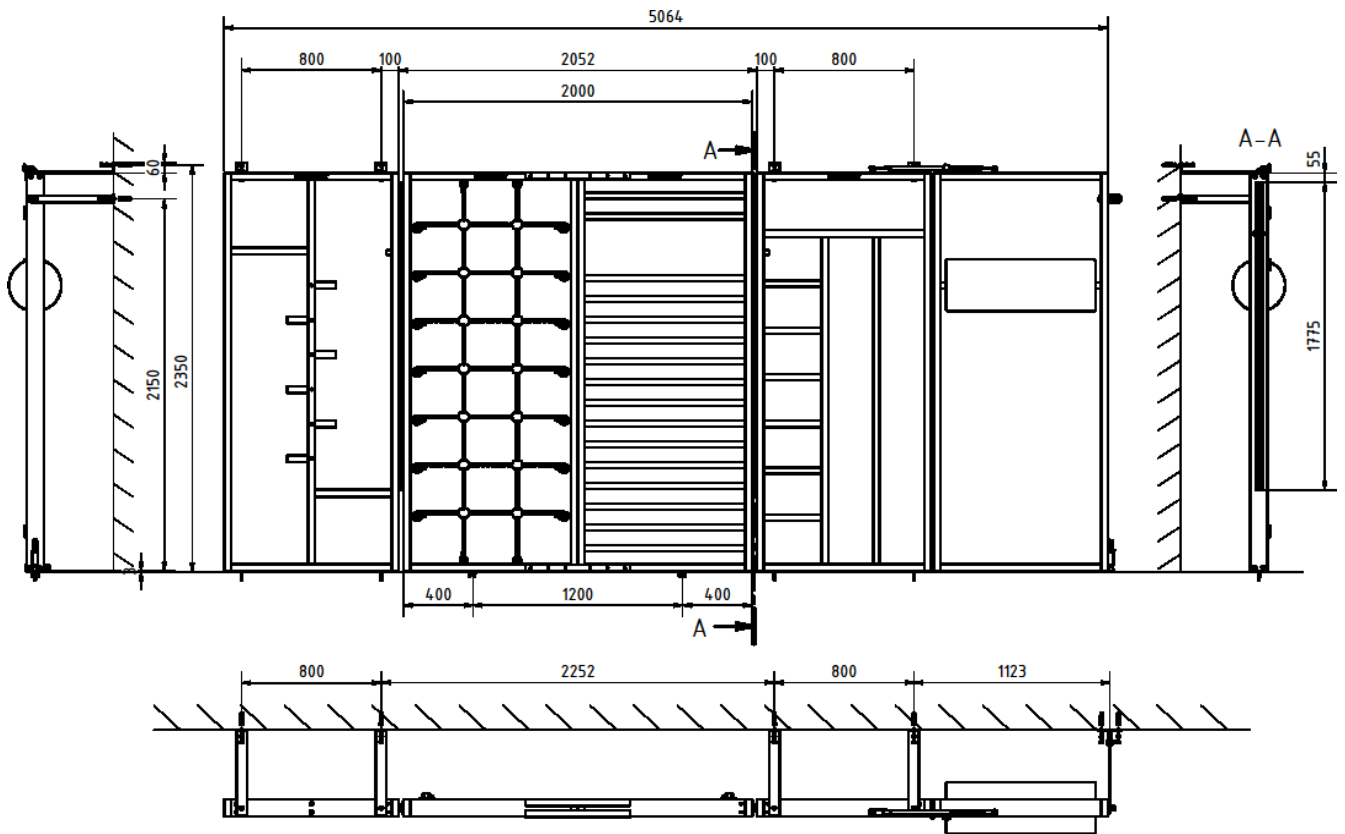

Figure 4: Recommended drilling dimensions for the frames
The gymnastics wall consists of five frames: two fixed, two tilting and one fold-out. Start by assembling the two gymnastics wall frames that can neither be tilted nor folded out. Place the frames at a distance of 40 cm from the wall they will be mounted on and put two washers ④ under each frame. Maintain the distance between the individual frames as specified in figure 4.
Don't forget to check the wall for potential obstacles, such as pipes or electrical cables. We recommend using the drilling dimensions shown in figure 4, provided there are no interfering objects. If there are, the drilling points should be slightly offset.